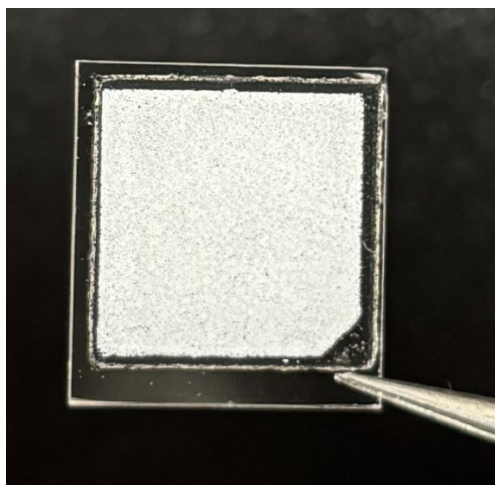

Figure 5. Correct tweezer placement when transferring the Trekker tile. Grip near the chamfered corner. Take care to avoid direct contact with the beads.
6. After the 7.5 min of incubation, carefully pick the tile up with tweezers by the corner of the tile, without touching the beads (Figure 5 in Section IV.B, "General Precautions"), and place the tile in Chamber 1 containing cold Nuclei Wash Buffer. Wait 5 sec.